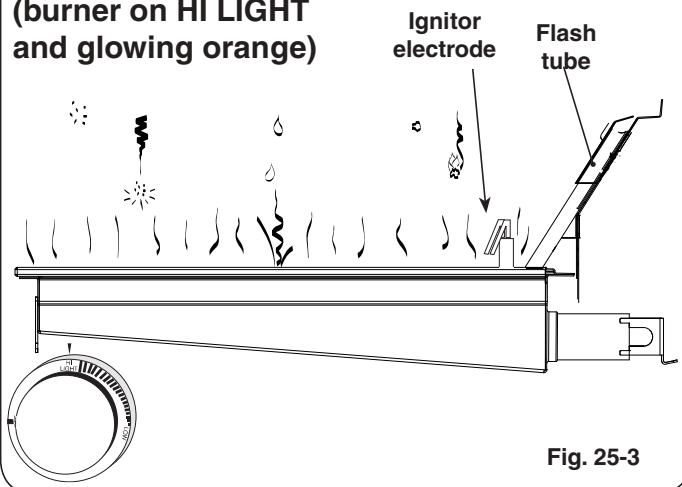

Fig. 25-3
- **DO NOT place food on the cooking grid until the IR burner glows orange (Fig. 25-3). Drippings are heated and evaporate instead of sticking to and impairing burner function.**